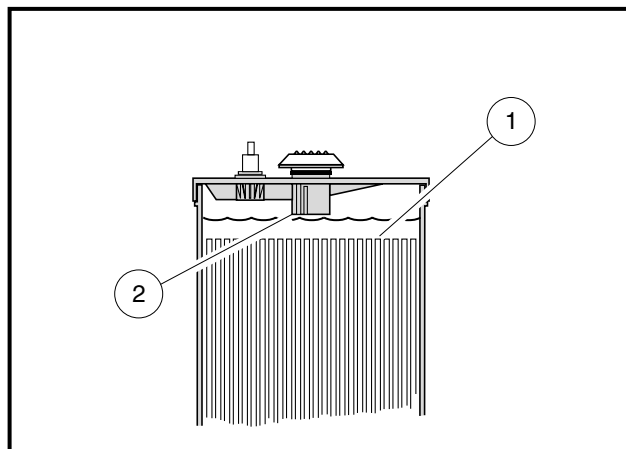

Figure 14 Battery Electrolyte Level
2. The electrolyte level in the batteries should be checked weekly. Add water only after charging unless the electrolyte level is below the top of the plates. In this case, add just enough water to cover the plates (1). Electrolyte level should be at least 13 mm (1/2 inch) above plates or to level indicator (2) (**Figure 14, Page 32**). Charge batteries and then check the level again. Never charge batteries if plates are exposed above electrolyte level. For best battery life, use only distilled water.